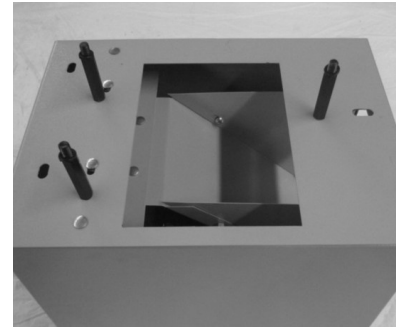

Figure 1
2. Line up two holes in top of stand with holes in jointer body assembly(Fig. 1)